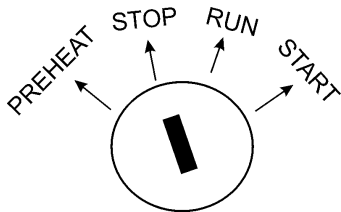

Figure 35. Ignition Switch 'STOP'
4. Turn the ignition key to 'STOP' (Figure 35).